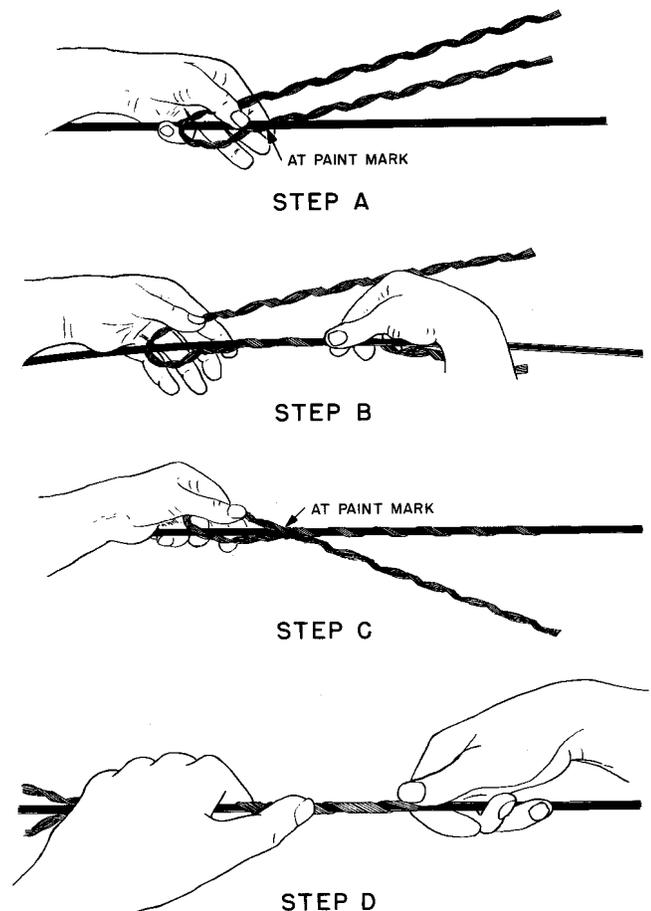

Fig. 5—Placing Dead-end Support
6.03 The dead-end support can be applied to the C rural wire as follows (Fig. 5):